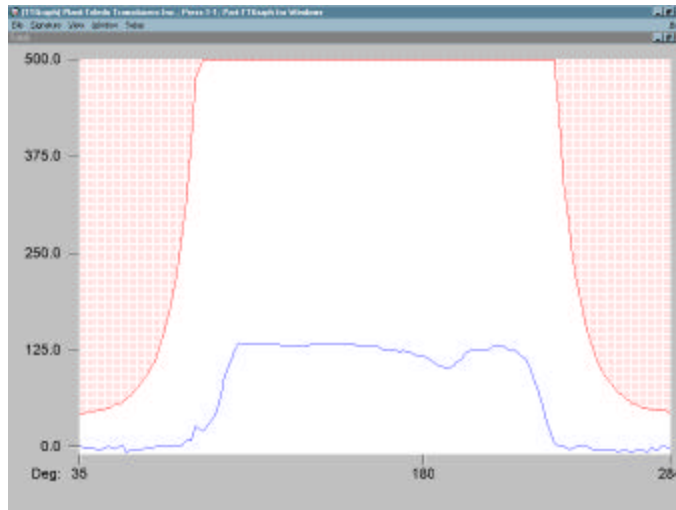

Figure 17: Scale Uniformly by Capacity.
2. This scaling will allow you to see the signatures and press curves in maximum scale. (See Fig. 17).